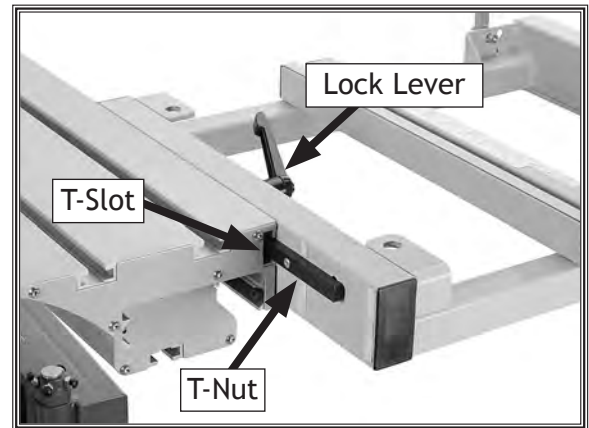

Figure 22. Crosscut table installation.
16. Align the T-nuts on the crosscut table with the T-slot in the face of the sliding table, then slide the crosscut table into position on the sliding table (**Figure 22**) and tighten the crosscut table lock lever.